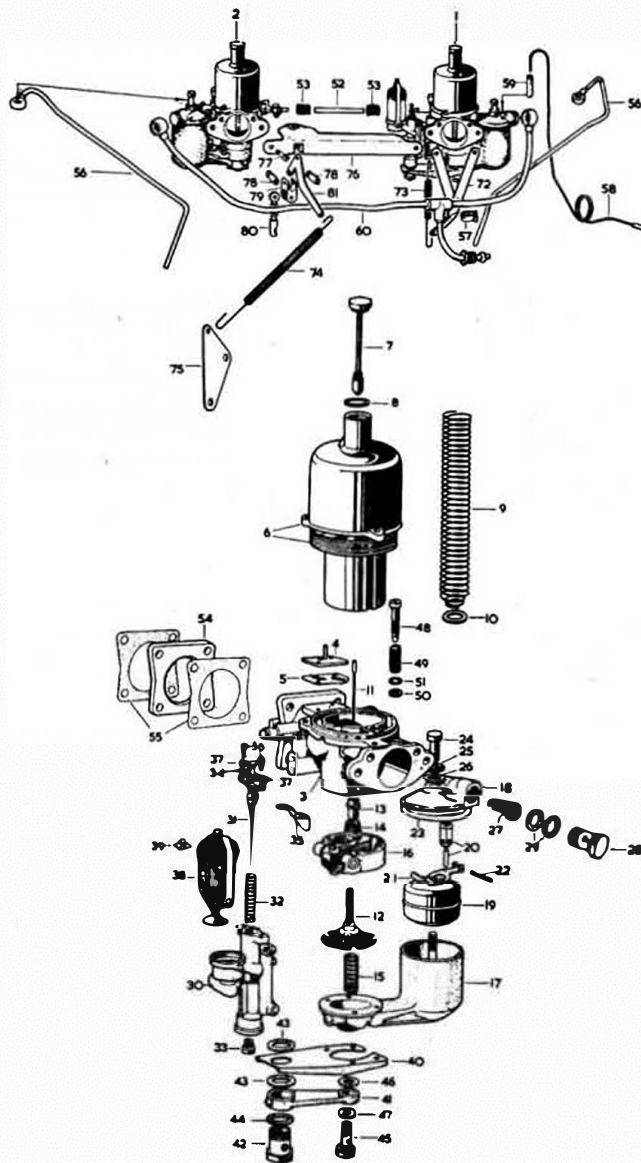

FIG.3.13. THE S.U. HD.6 CARBURETTOR (FRONT)
1 The 3.4 and 3.8 liter and the 34-0 models are fitted with twin SU type HD 6 carburettors whilst the 240 model has twin SU HS 6 carburettors. these are illustrated in Figs.3.13 and 3.14. They are generally similar in appearance and operation the main difference in construction being that in the case of the HD 6 the jet is fixed and the mixture is controlled by an external screw and lever (item B in Fig.3.281 whilst in the HS 6 type the position of the jet in relation to the needle can be adjusted by means of an adjusting nut at the base of the carburettor and this movement of the jet controls the mixture.
1 Remove the starting carburettor from the carburettor by undoing the banjo bolt (item 42 in Fig.3.13). From this point onwards both front and rear carburettors can be treated in a similar manner.